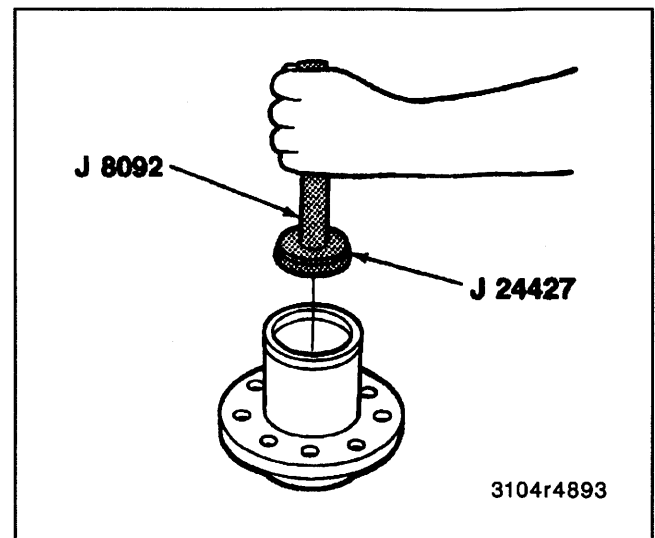

Figure 32—Installing Inner Bearing Cup
- Inner bearing cup using J 8092 and J 24427 (figure 32).